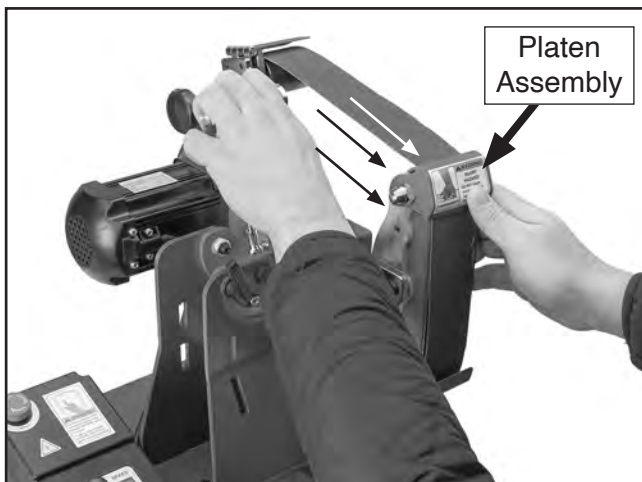

Figure 29. Pulling platen assembly forward.
6. Without releasing belt tension handle, move platen assembly as far forward as you can without stretching belt (see **Figure 29**), then tighten platen lock handle.